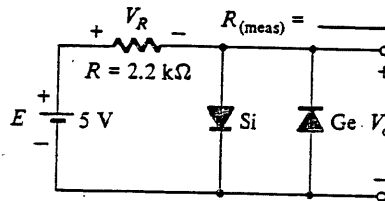

Figure 3-8
- g. Construct the network of Fig. 3.8. Record the measured value of the resistor.